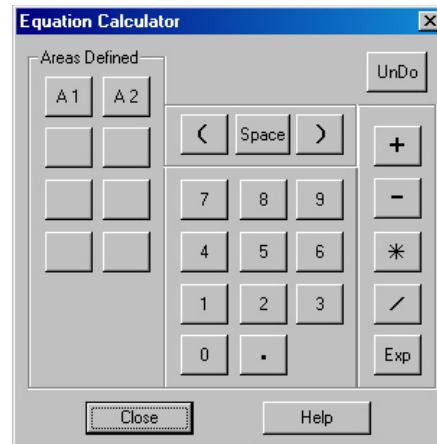

Figure 113. Equation Calculator dialog
**Calculator button:** Opens the **Equation Calculator** (Figure 113). This